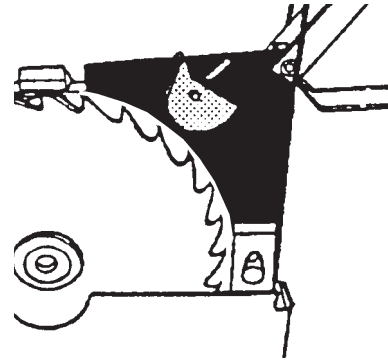

Figure 103
3. The curved portion of the Riving Knife should be very close to the Saw Blade Teeth (about 1/8"), as illustrated in Figure 103.